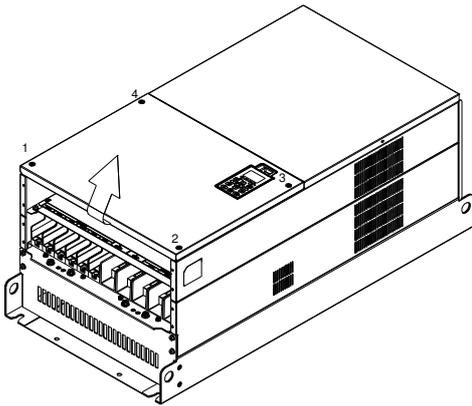

Figure 1
(1) Loosen the screw (figure 1) and remove the cover. Screw torque: 12~15kg-cm (10.4~13lb-in).